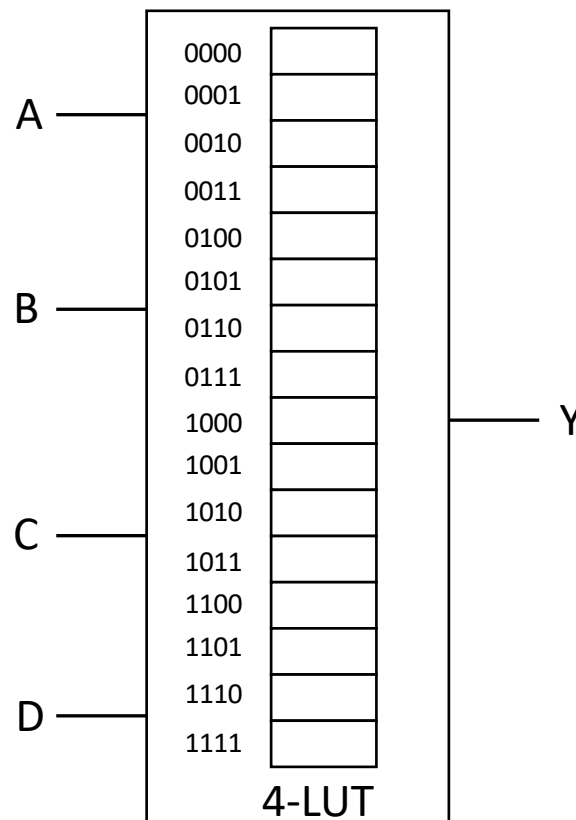

Figure A.3: Diagram of a 4-LUT
A.4.1 Implement combinational logic functions using LUT Implement the following combinational logic functions using 4-input LUTs. Write down the configuration values of the LUTs using Figure A.3.
A.4.2 5-LUT Design a 5-input LUT using multiple 4-input LUTs. Draw the diagram of your design using Figure A.3. Only use 4-LUTs as your circuit component.